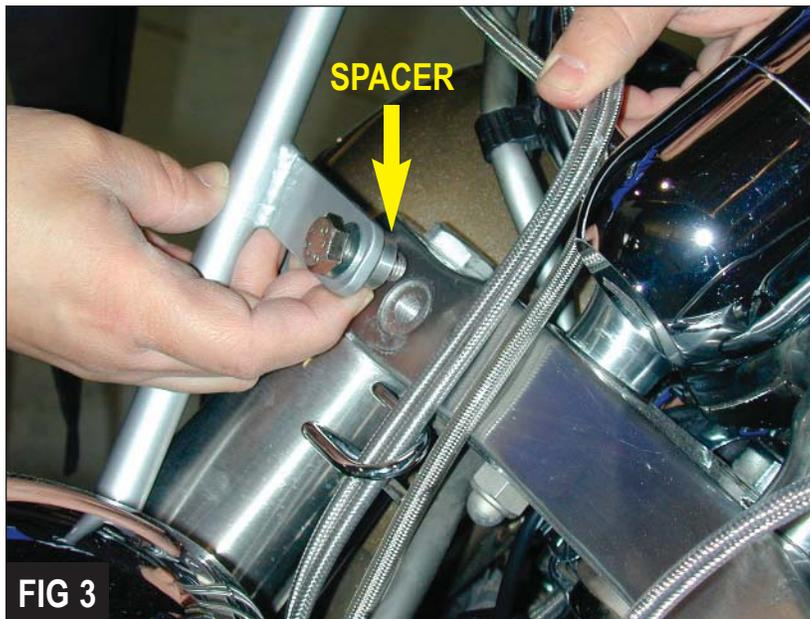
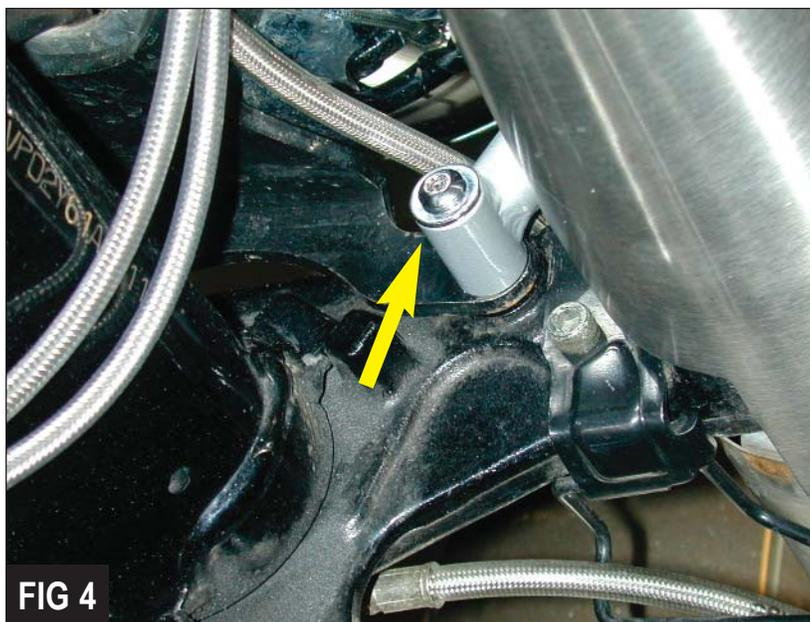

FIG 3
FIG 4
5. Now secure the Corbin bracket with a spacer between the Corbin bracket and your bike in the top position with one of the 10mm hex head bolts and 3/8" flat washer (Figure 3) and a 8mm x 1.0 x 40" chrome button head Allen bolt with a 1/4" flat washer at the bottom position (Figure 4).